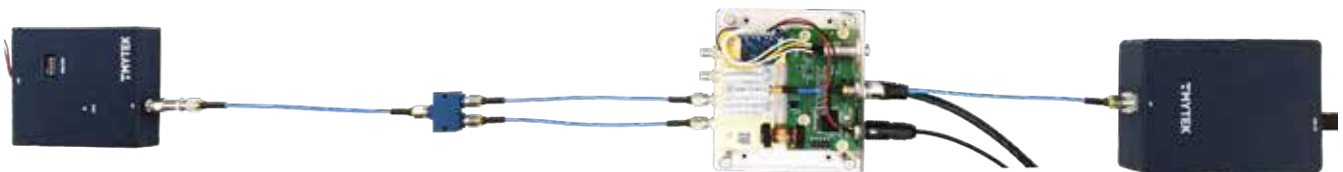

Figure 10. Configuration of Lab 8
- c. Use the last one RF cable to connect it to BBoard' s RF com port to the power detector as shown in Figure 10.